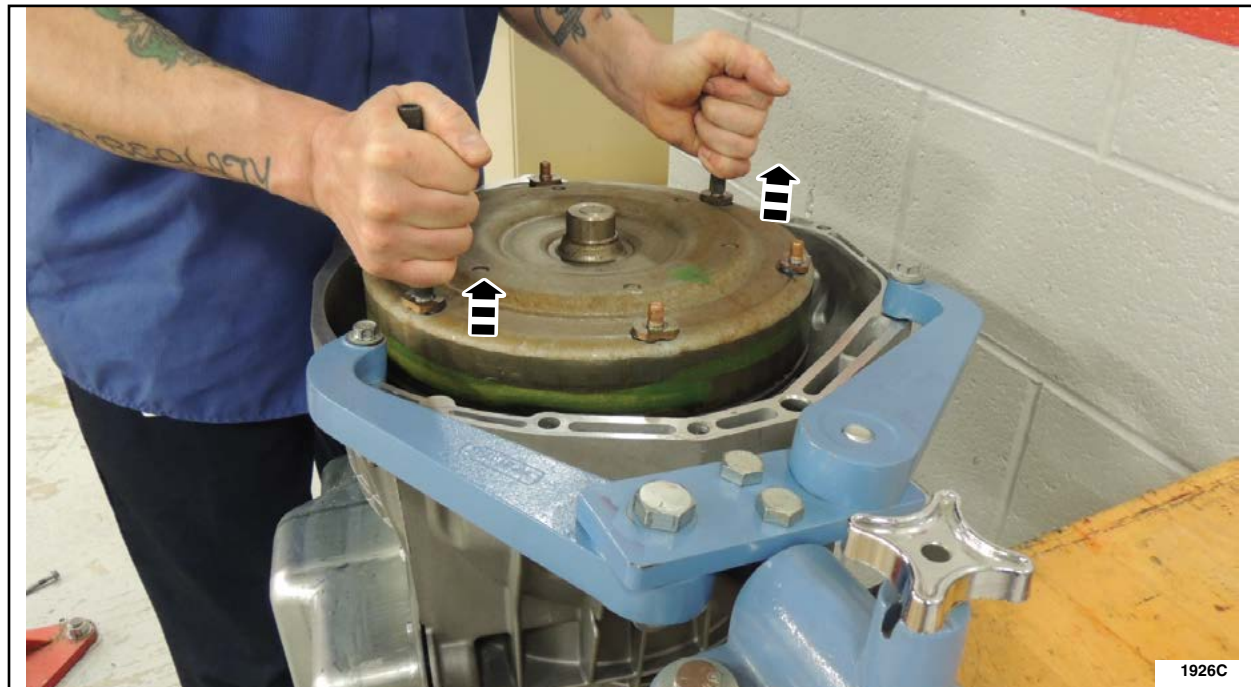

FIGURE 3
4. Using the Torque Converter Handles (307-091), remove the torque converter. See Figure 3.